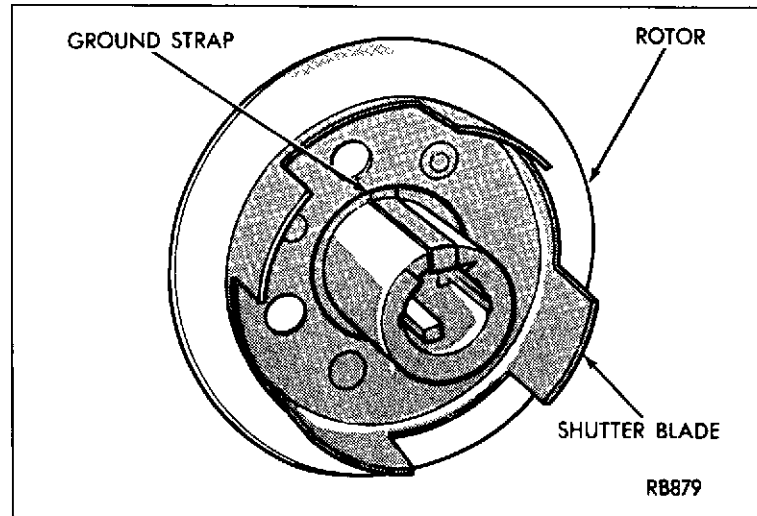

Fig. 14—Hall Effect Rotor
- a. Cold fouling or carbon deposits (Fig. 14). This is a dry, black appearance (fuel carbon) and is caused by a too-rich fuel/air mixture, possibly the result of a faulty choke, clogged air cleaner, improper carburetor idle adjustment, or a dirty carburetor. However, if only one or two plugs in a set are fouled, inspect the valve guide seals for wear or improper installation and check for faulty ignition cables. The condition may also be a result of prolonged engine operation at idle.